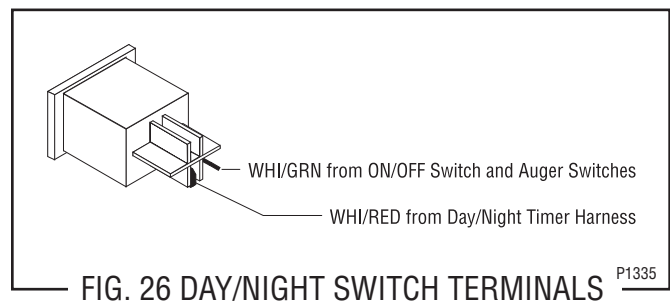

FIG. 26 DAY/NIGHT SWITCH TERMINALS
7. Reconnect the wires to the switch. Refer to Fig. 26 when reconnecting wires.